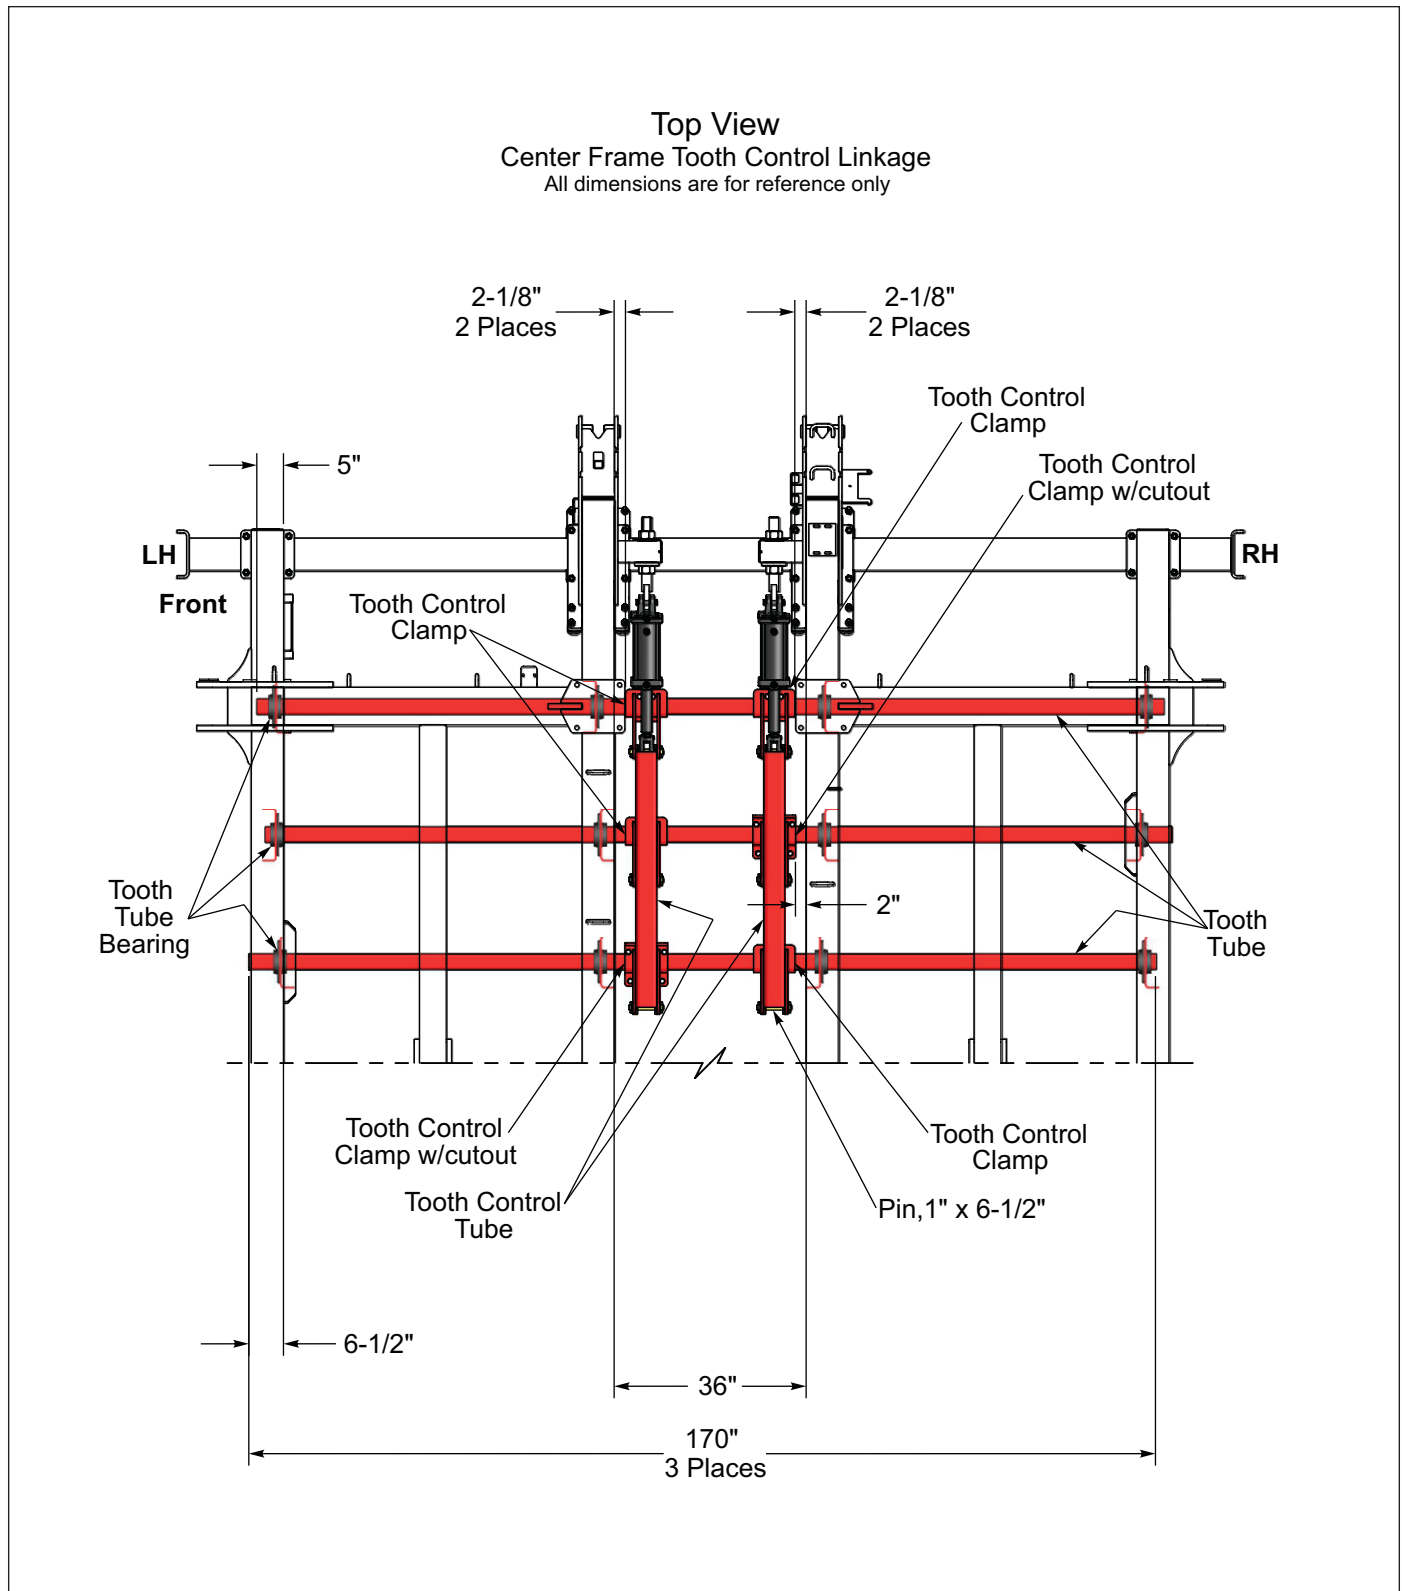

Figure 2-30: Center Frame Tooth Control Brackets Mounting Dimensions
2. Position Tooth Tubes in the proper lateral position to the frame before continuing. **See Figure 2-30.**
Ensure that both linkages don't bind and the Tooth Control Clamps and the Tooth Tubes are positioned correctly. **See Figure 2-30.** Tighten the Bolts and Nuts at this time.